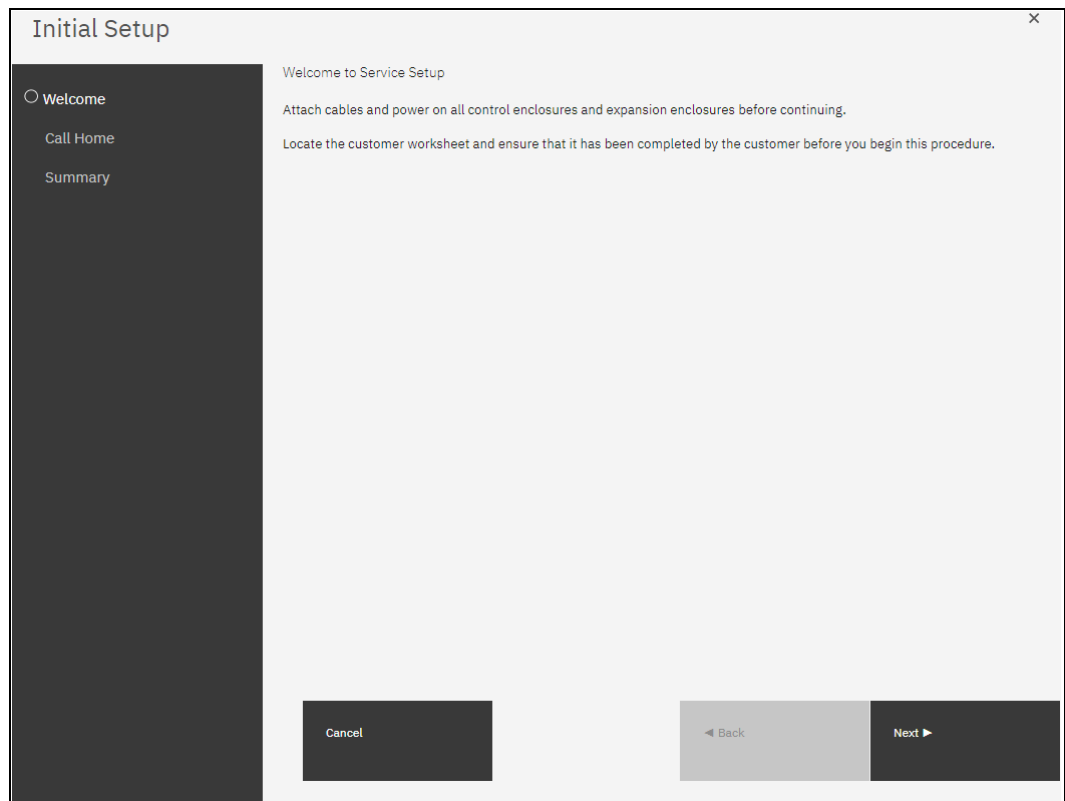

Figure 2-17 Initial Setup Window
2. The Initial Setup starts with the Welcome page, as shown in Figure 2-17. Click **Next**.